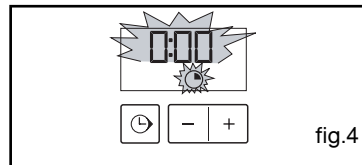

fig.4
- The cooking time indicator and 0:00 flash (fig.4).